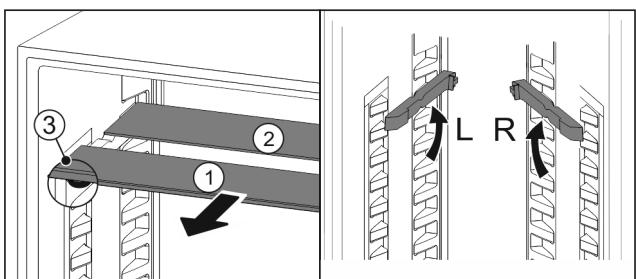

Fig. 85
- ▶ Pull the glass panels out Fig. 85 (1) from the front, one at a time.
- ▶ The glass panel Fig. 85 (1) and trim strip are at the front.
- ▶ The stops Fig. 85 (3) point down.